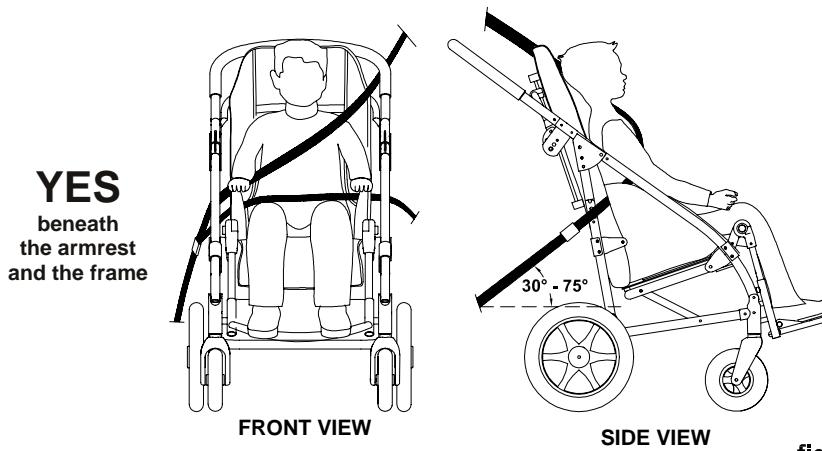

fig. 5
- in order to preserve their effectiveness, **belt restraints should not be held away from the body by wheelchair components or parts**, such as the wheelchair armrests or wheels (see fig 5 and 6, page 13)
- **shoulder-belt restraints should fit over the shoulders** (see fig. 5, page 13)
**ATTENTION!** the pelvic-belt restraint should be worn low across the front of the pelvis, so that the angle of the pelvic-belt restraint is within the preferred zone from 30° to 75° to the horizontal, similar to that shown in Figure 5. A steeper (greater) angle within the preferred zone is desirable.